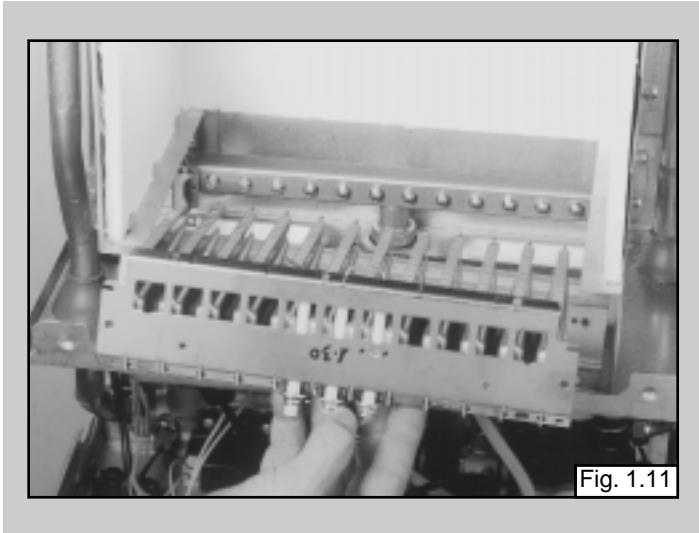

Fig. 1.11
2. Remove the burner (FIG. 1.11);